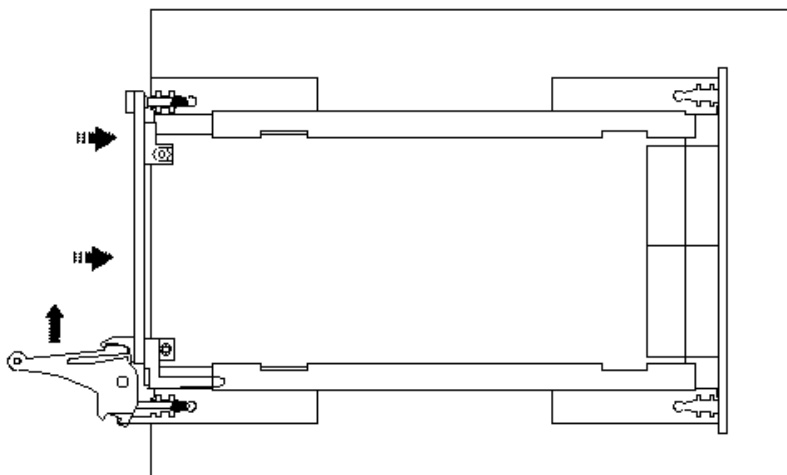

Figure 3-2: Ejector handles position after module insertion
5. Carefully slide the PXI board to the rear of the chassis, make sure that the ejector handles are pushed **out** (as shown in Figure 3-2).